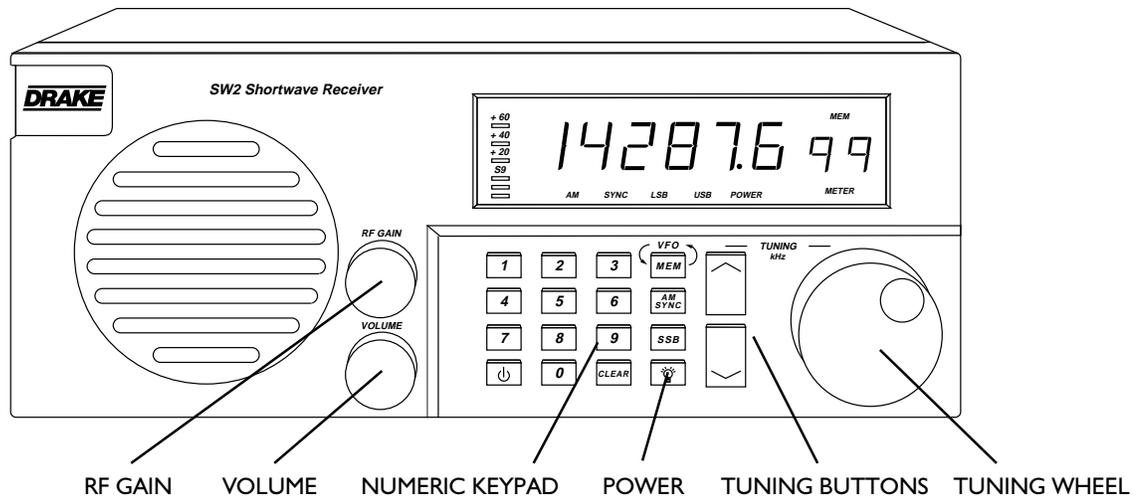

FIGURE 4
3. Please refer to Figure 4. Press the  button to turn on the SW2. The display will show the receive frequency. Set the RF GAIN control fully clockwise. Set the VOLUME control for a comfortable volume level.
4. Please refer to Figure 4. Tune to the desired frequency by using one of several methods covered below.